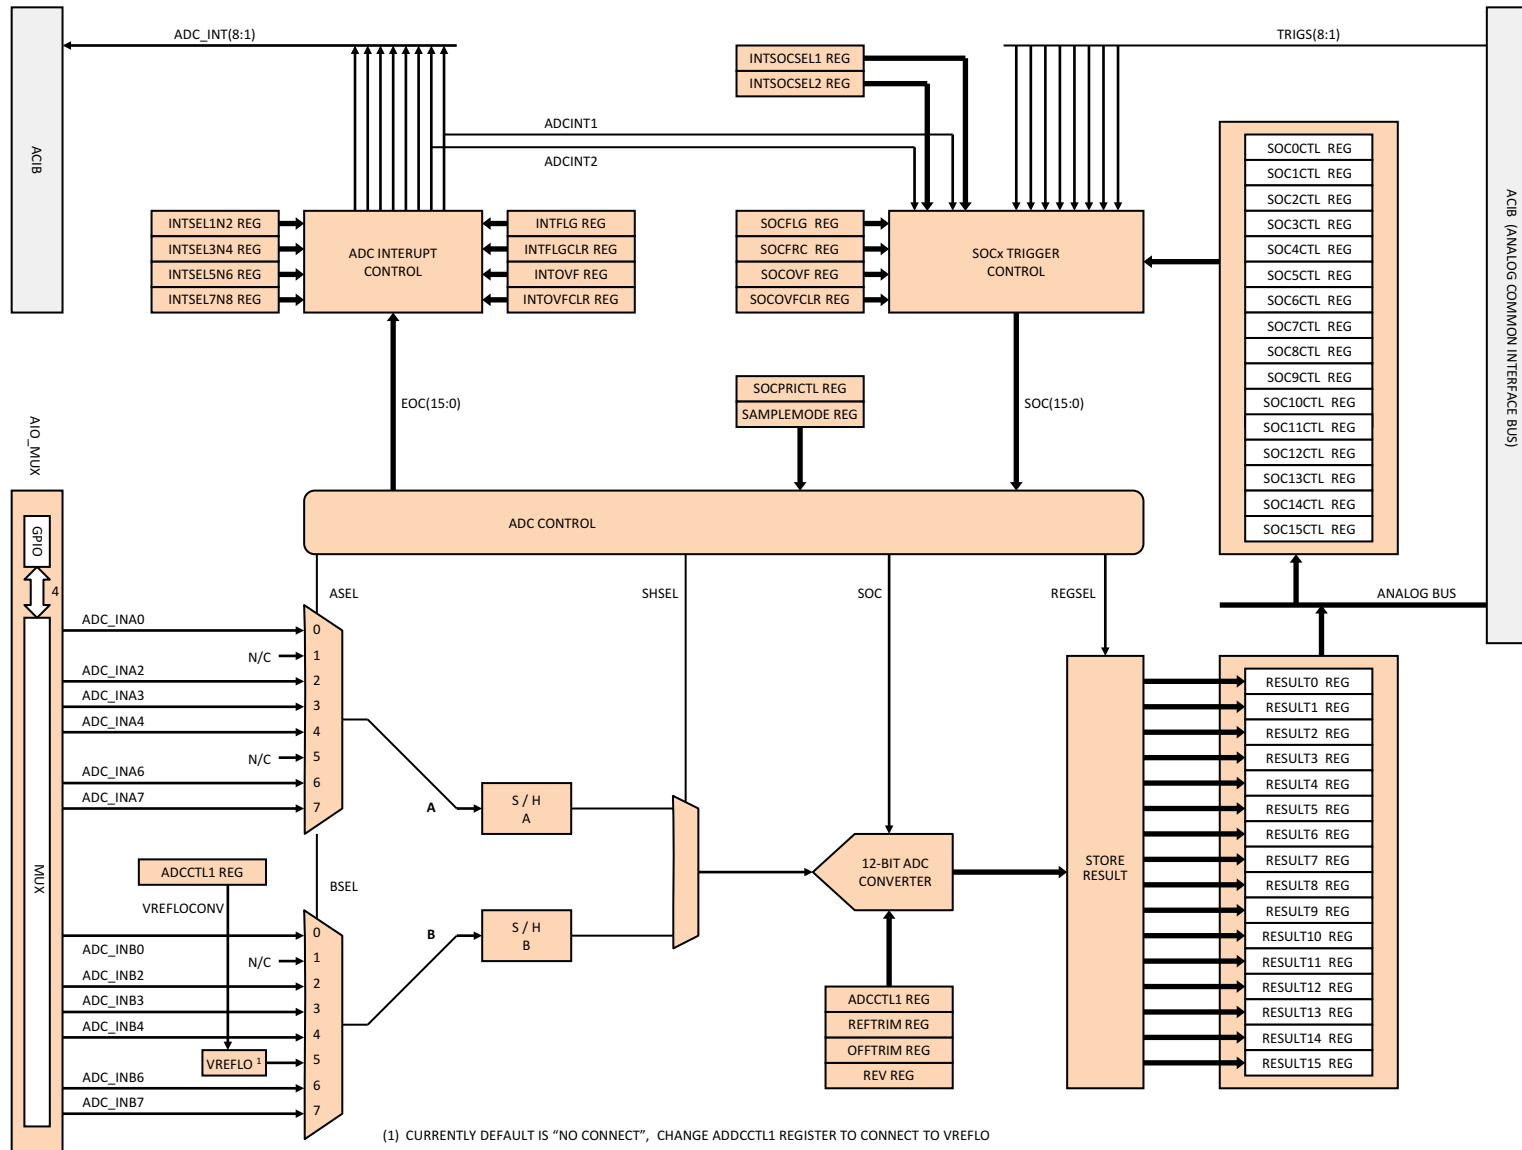

Figure 6-1. ADC
**Figure 6-1** shows the internal structure of each of the two ADC peripherals that are present on Concerto. Each ADC has 16 channels that can be programmed to select analog inputs, select start-of-conversion trigger, set the sampling window, and select end-of-conversion interrupt to prompt a CPU or DMA to read 16 result registers. The 16 ADC channels can be used independently or in pairs, based on the assignments inside the SAMPLEMODE register. Pairing up the channels allows two analog inputs to be sampled simultaneously—thereby, increasing the overall conversion performance.
The Simultaneous mode is made possible by two sample-and-hold units present in each ADC. Each sample-and-hold unit has its own mux for selecting analog inputs (see **Figure 6-1**). By programming the SAMPLEMODE register, the 16 available channels can be configured as 16 independent channels, 8 channel pairs, or any combination thereof (for example, 10 sequential channels and 3 simultaneous pairs).
Analog inputs to each of the two ADC modules are organized in two groups—A and B, with each group having a dedicated mux and sample-and-hold unit (see Figure 6-1). Mux A selects one of six possible analog inputs via AIO MUX. Mux B selects one of seven possible analog inputs—six external inputs via AIO MUX, and one from the internal VREFLO signal, which is currently tied to the Analog Ground. The Mux A and Mux B inputs can be simultaneously or sequentially sampled by the two sample-and-hold units according to the sampling window chosen in the SOCxCTL register for the corresponding channel.